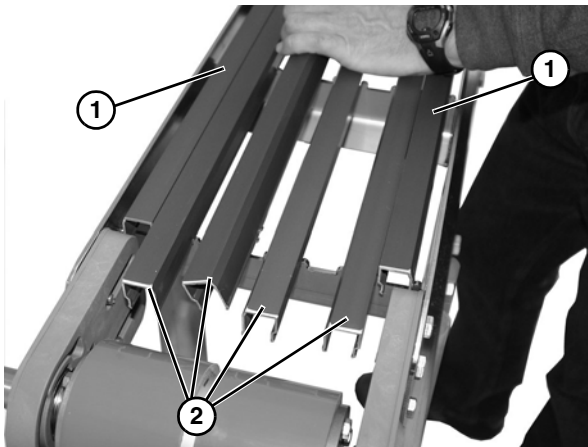
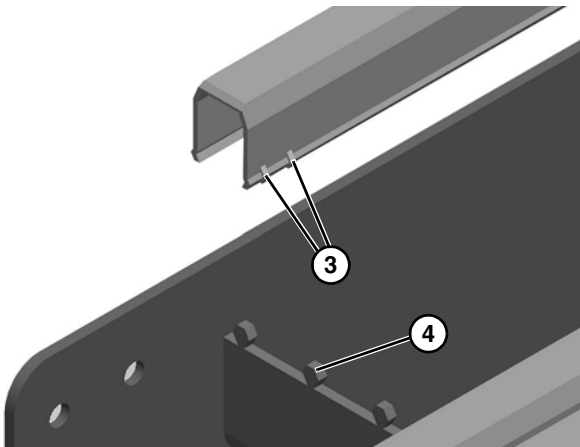

Figure 10
Figure 11
1. Install two outer bed rails (**Figure 10, item 1**) and inner bed rails (**Figure 10, item 2**), making certain that bed rails notched area (**Figure 11, item 3**) cradles frame clip (**Figure 11, item 4**).